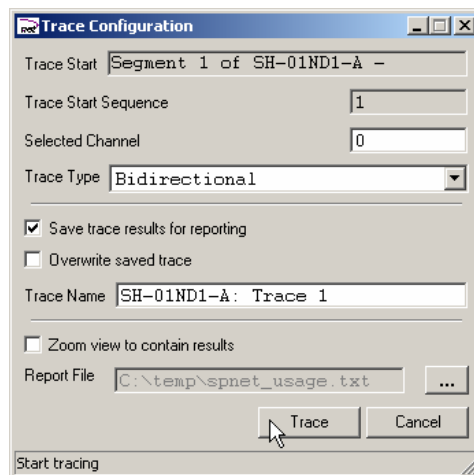

Figure 144 –Configuration for a Bidirectional Trace of Fiber 1 of cable SH-01ND1-A.
- Click the **Trace** button in Figure 144. The system will trace optical connectivity both upstream and downstream. The trace will highlight any cable sheaths it passes through, and should begin at port 1 of the term panel we placed in the Shared Hub, and end at port 1 of the HFC Node.